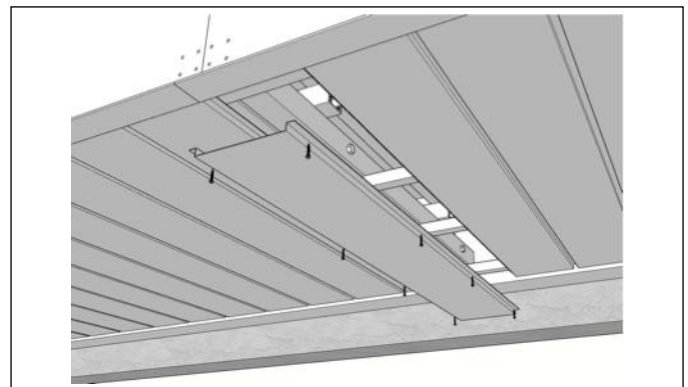

Fig 16
15. Locate loose soffit panels, sizes and locations can be found on the drawings. Secure using supplied screws (Fig 16).